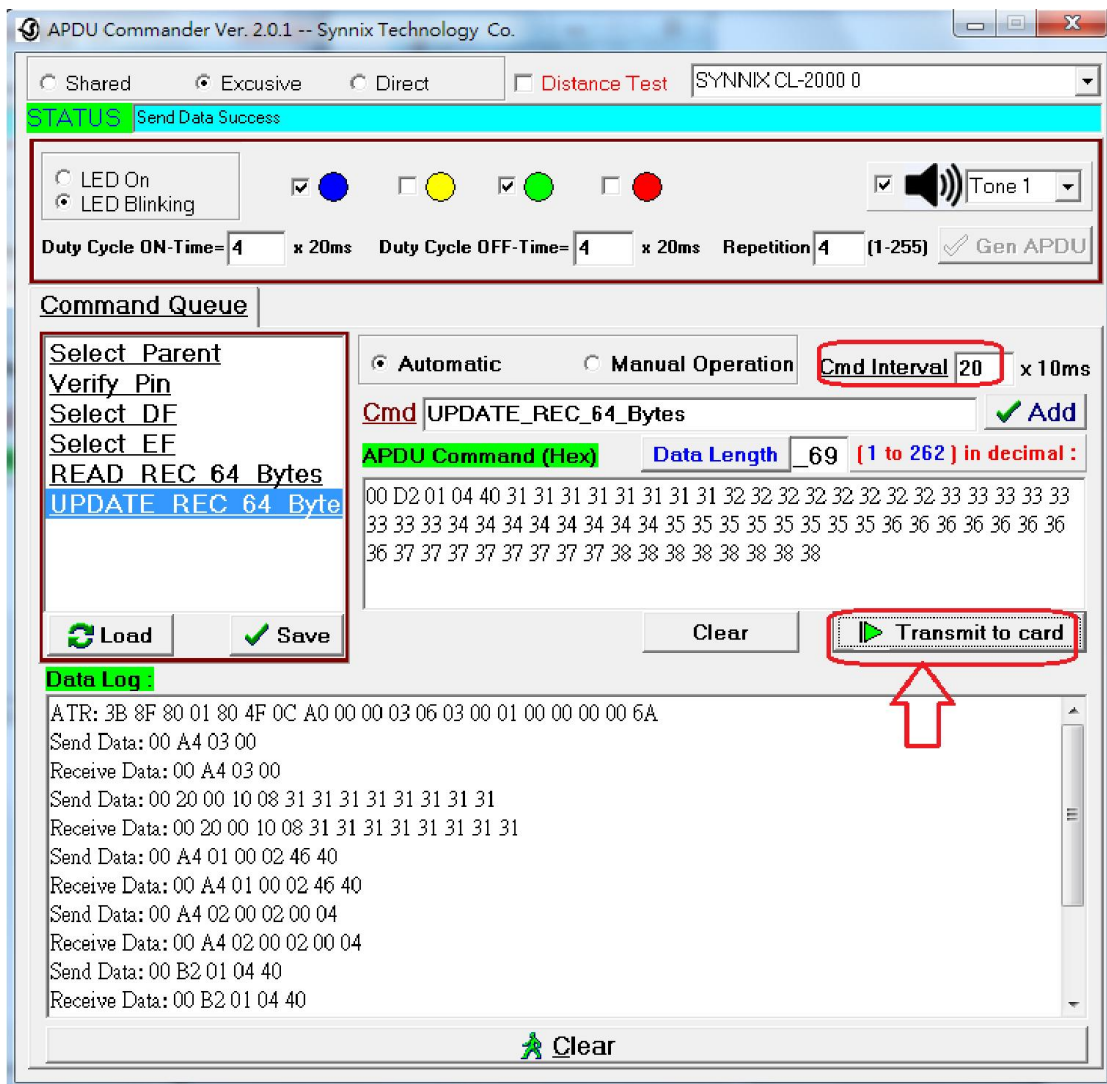

Figure 13
- The values of “Cmd Interval” will change the speed between two commands. See Figure 13.